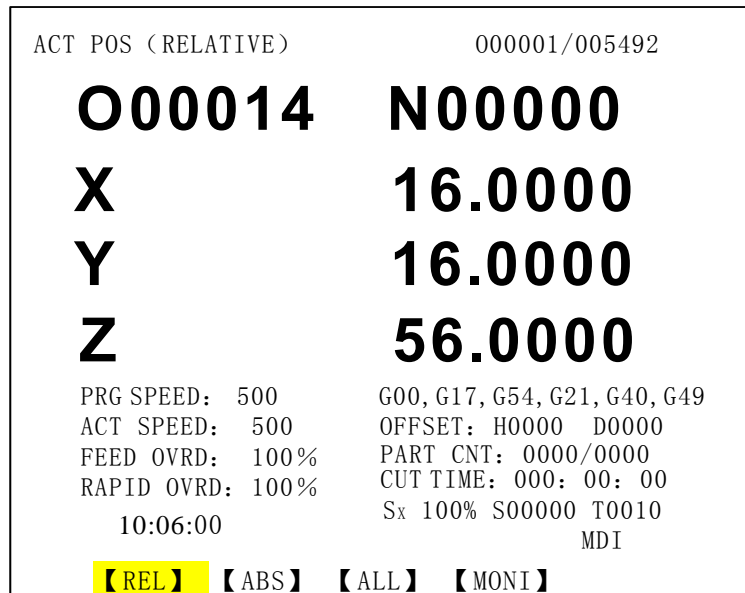

Fig. 3-1-1
1) Relative mode: It displays the coordinate of the current tool in relative coordinate system by pressing **【REL】** soft key, called “relative” in following(see Fig.3-1-1):